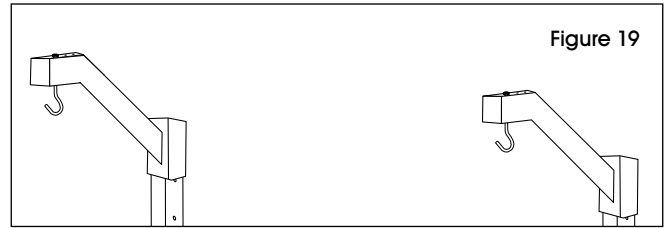

Figure 19
- 4b. For 48" Light Kits: Place two "S" hooks (11) at desired depth underneath bracket. Fasten to brackets (9) with two M6 flange nuts. (See Figure 19)